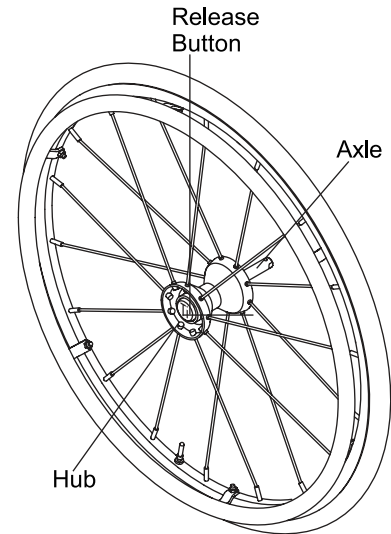

Figure 101
1. Hold wheel securely at the hub through the spokes. See Figure 101.